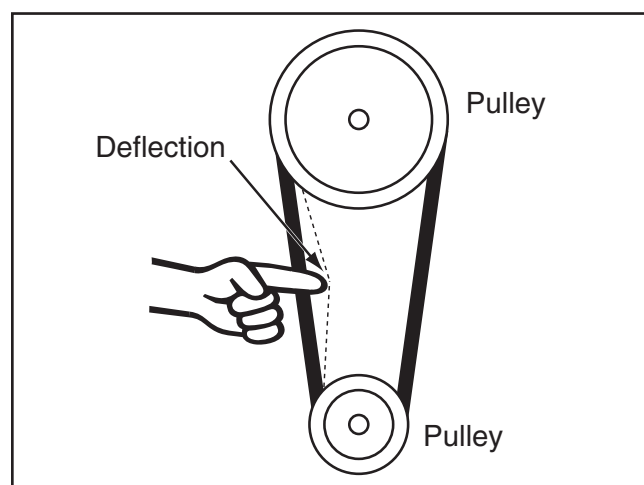

Figure 44. Checking for correct V-belt deflection.
- Move the motor rearward by tightening the tensioning bolts evenly until there is approximately $\frac{3}{4}$ " deflection of the V-belts between the pulleys when moderate pressure is applied (see **Figure 44**).